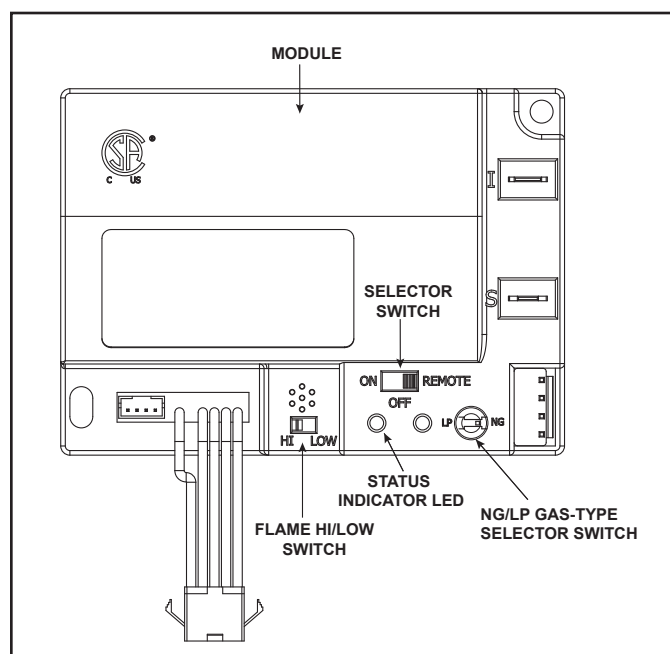

Figure 6. Control Module
- To adjust the flame height with a optional remote control (RC200 or RC300) the FLAME HI/LOW switch must be in the HI setting. IF the FLAME HI/LOW is in the LOW setting, the optional remote (RC200 or RC300) will no longer adjust the flame height. See Figure 6.